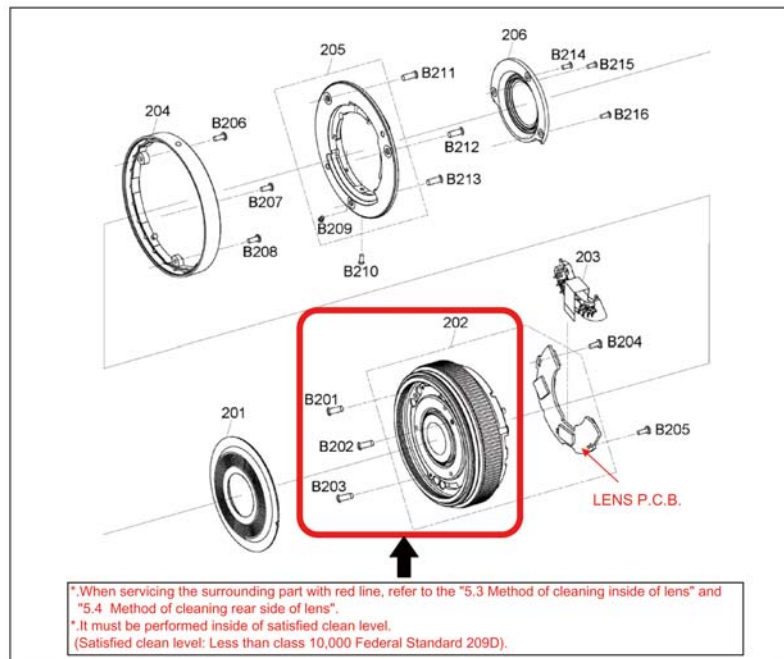

Fig. D1
1. When servicing the surrounding part with red line (refer to Fig.D1), it must be performed inside of satisfied clean level.
Proceed disassemble/ and assemble, by referring the following table and Fig.D1.